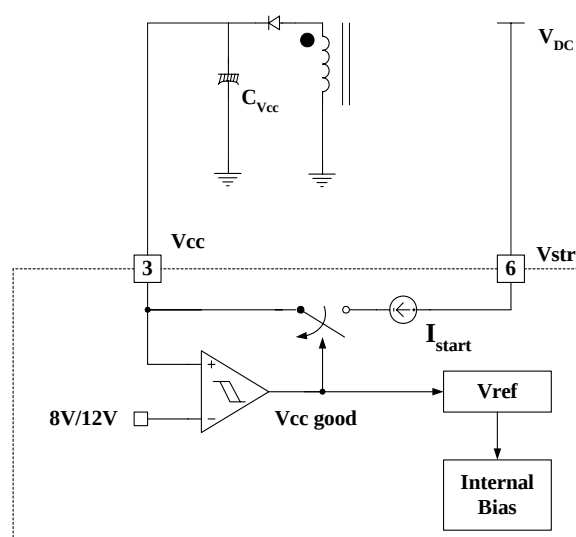

Figure 4. Internal startup circuit
1. Startup : In previous generations of Fairchild Power Switches (FPS™) the Vcc pin had an external start-up resistor to the DC input voltage line. In this generation the startup resistor is replaced by an internal high voltage current source. At startup, an internal high voltage current source supplies the internal bias and charges the external capacitor (C_{VCC}) that is connected to the Vcc pin as illustrated in Figure 4. When Vcc reaches 12V, the FSDM0565RB begins switching and the internal high voltage current source is disabled. Then, the FSDM0565RB continues its normal switching operation and the power is supplied from the auxiliary transformer winding unless Vcc goes below the stop voltage of 8V.